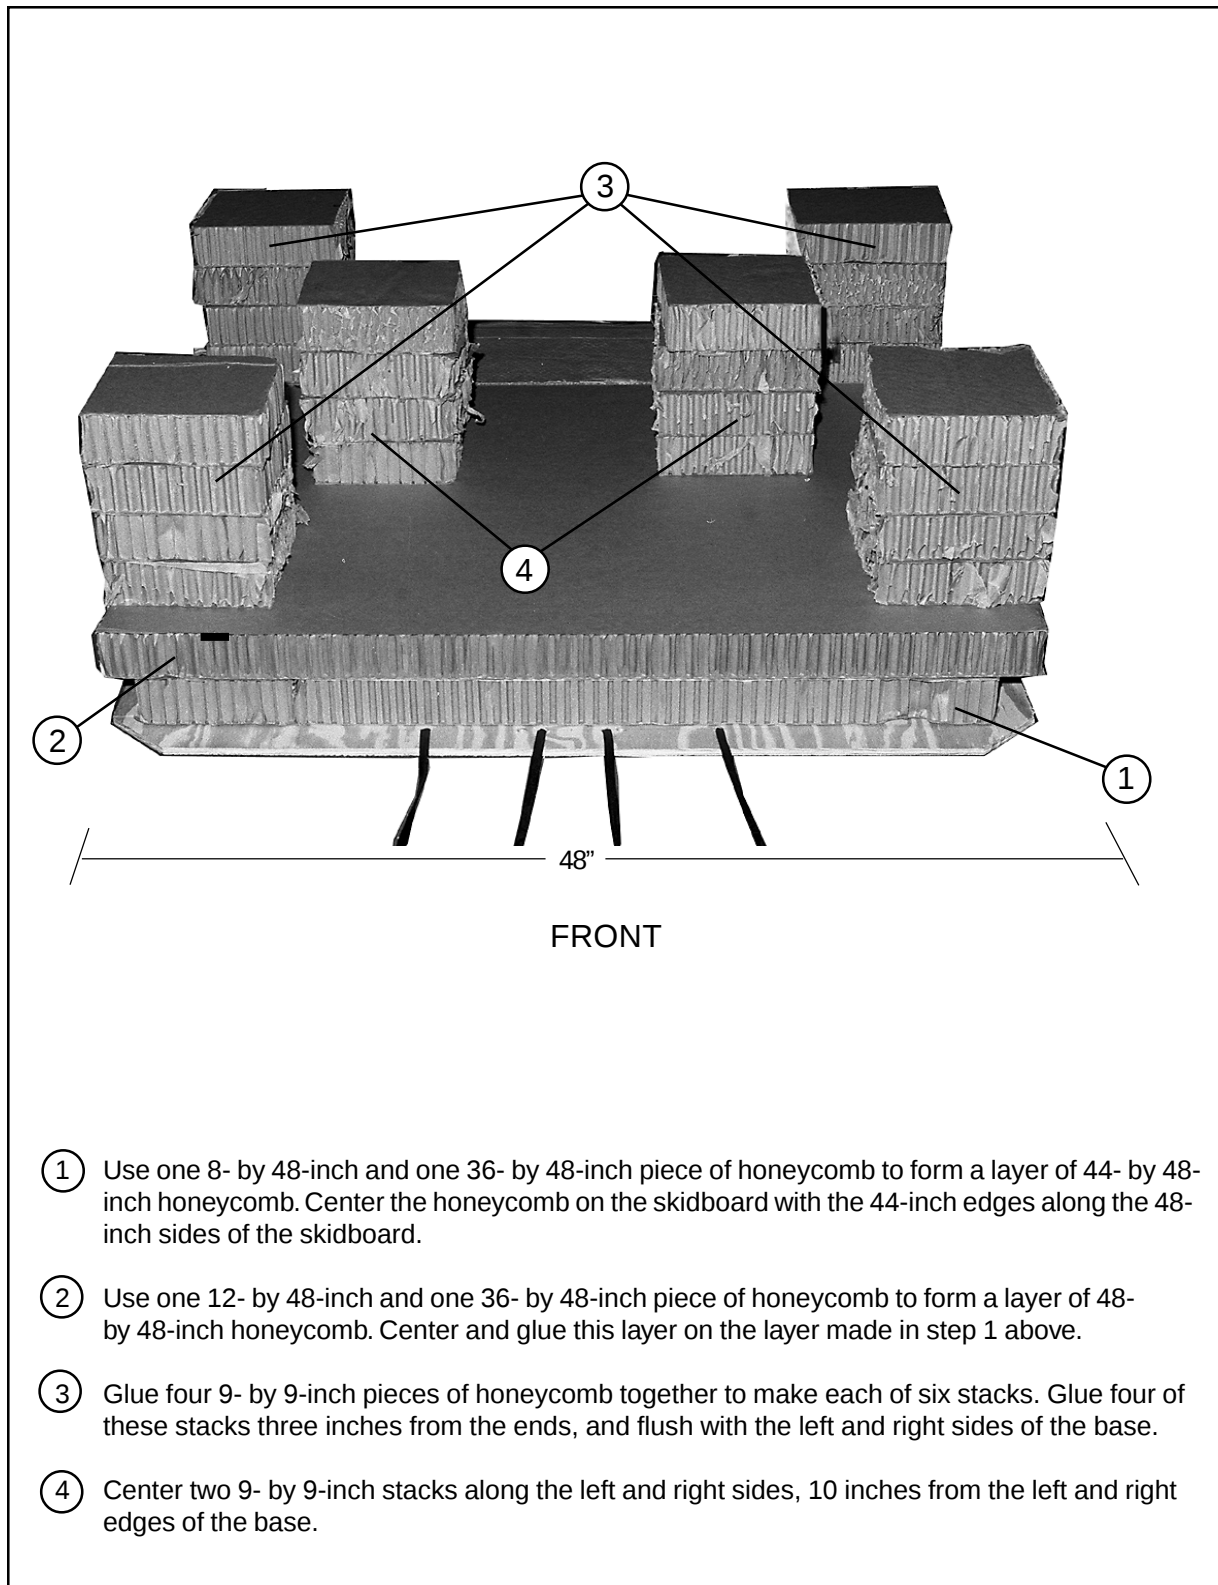

Figure 2-13. Skid and Honeycomb Prepared
- a. Prepare the skid and honeycomb as shown in Figure 2-13.